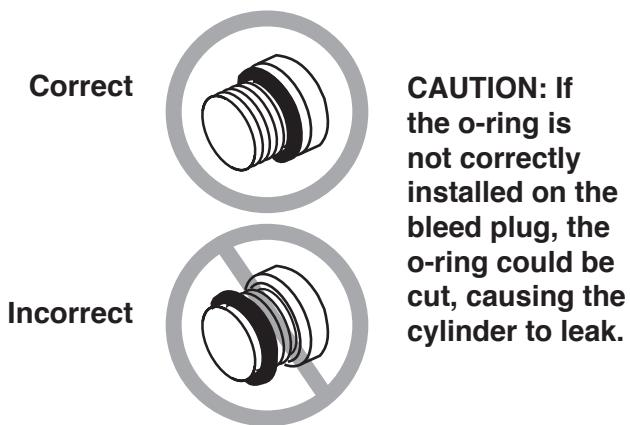

Figure 23
6. Install the bleed plug again with the o-ring positioned as shown in Figure 23. **CAUTION: If the o-ring is not correctly installed on the bleed plug, the o-ring could be cut, causing the cylinder to leak.**